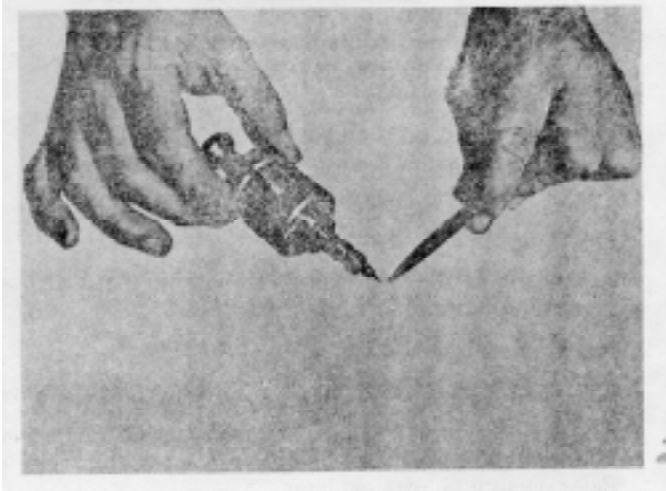

Figure 16H-55. ST-708 Burnishing Tool
14. Install the connector and ST-708 Tool into the Service Tool ST1254 Body inlet by screwing in the large knob section, Figure 16H-54.